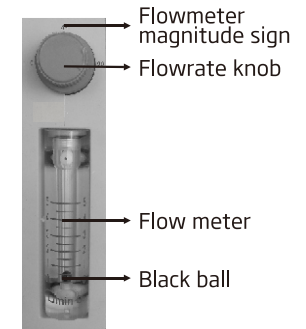

Figure 5
- ▶ Turn the flowrate knob to require oxygen need (Reed as centre of the black ball). Turn the knob anticlockwise to increase the flowrate, and clockwise to decrease. Meanwhile, humidifier bottle will have air bubble around the sieve core. Then, oxygen comes from the oxygen outlet. (Figure 5)